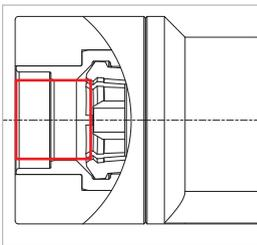

Figure 9
- ▶ Prior to this check, be sure to purge the WEH® Product with nitrogen or compressed air at the following areas (Figure 9):